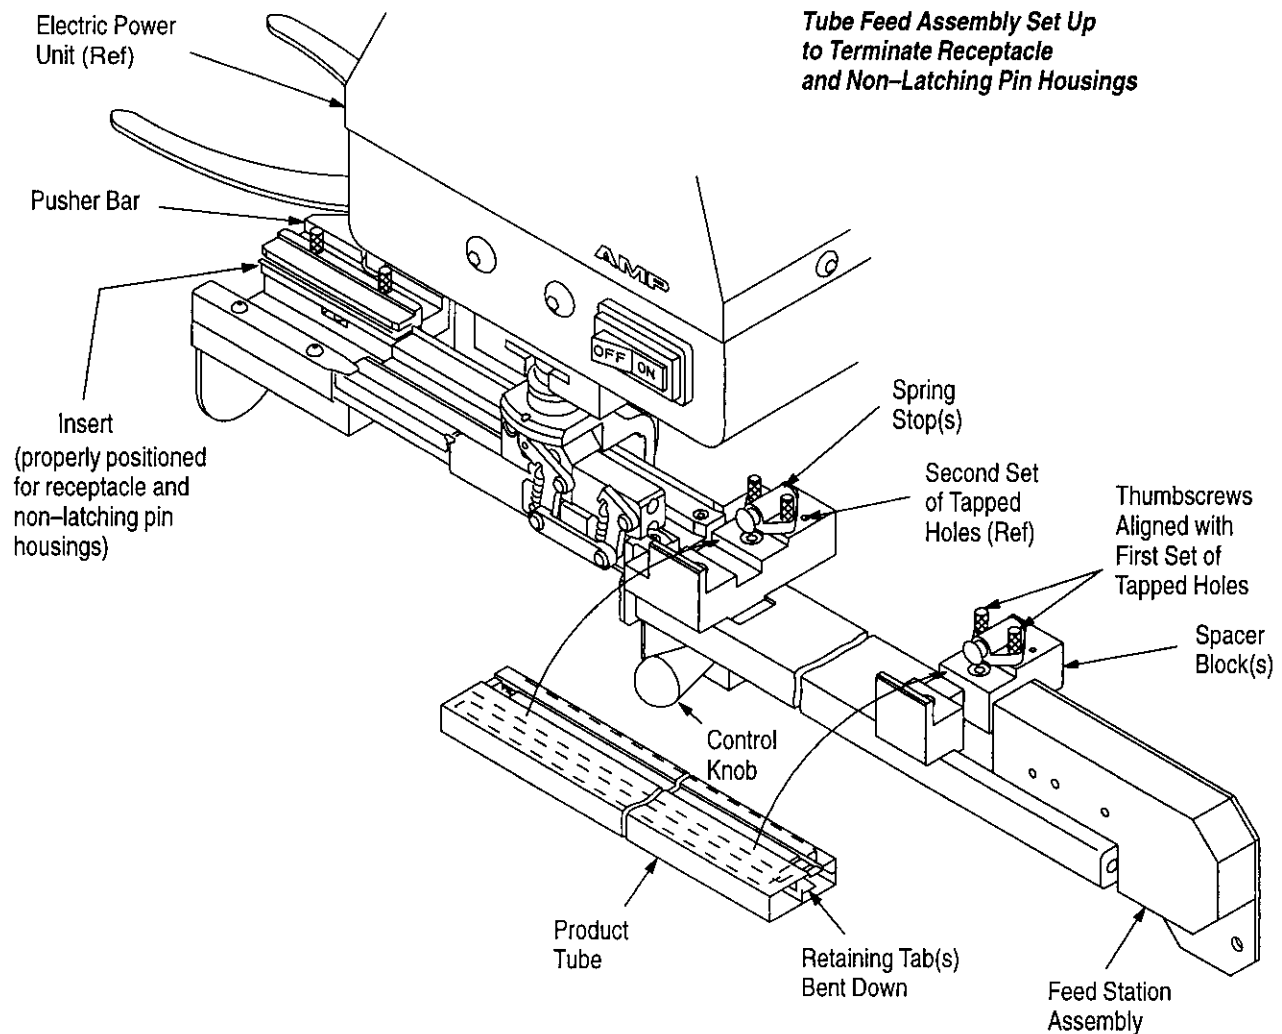

Figure 2
This instruction sheet covers the setup and operation of AMP® MTE Tube Feed Assembly 856675-1 designed to be used with AMP Electric Power Unit 931800-1, as shown in Figure 2. The assembly terminates unstripped wire in the shrouded pin and receptacle contacts of AMPMODU MTE housings and then seats the contacts within the housing. For setup and operation procedures of the power unit, refer to AMP customer manual 409-5746.
3.1. Setup (Figure 2)
A. Receptacle and Nonlatching Pin Housings (Figure 2)
2. Move control knob to the left (toward the seating station) until the latch engages with the sheet metal block at the far end. Place the product tube between the spacer blocks, as shown in Figure 2.
3. Reposition spring stop onto the spacer block, aligning the thumbscrews over the **first** set of tapped holes on the spacer block. See Figure 2.
5. Check position of insert on pusher bar. The insert must be positioned for the appropriate product, as shown in Figure 2. To re-adjust the insert, remove the thumbscrews, rotate the insert to the proper position; then retighten the thumbscrews.
Adjustment of the feed index adjustment screw requires the removal of feed station assembly 854650-1 (refer to Figure 2). Remove the two screws that secure the feed station assembly to the insertion station assembly and place the feed station assembly to the side.